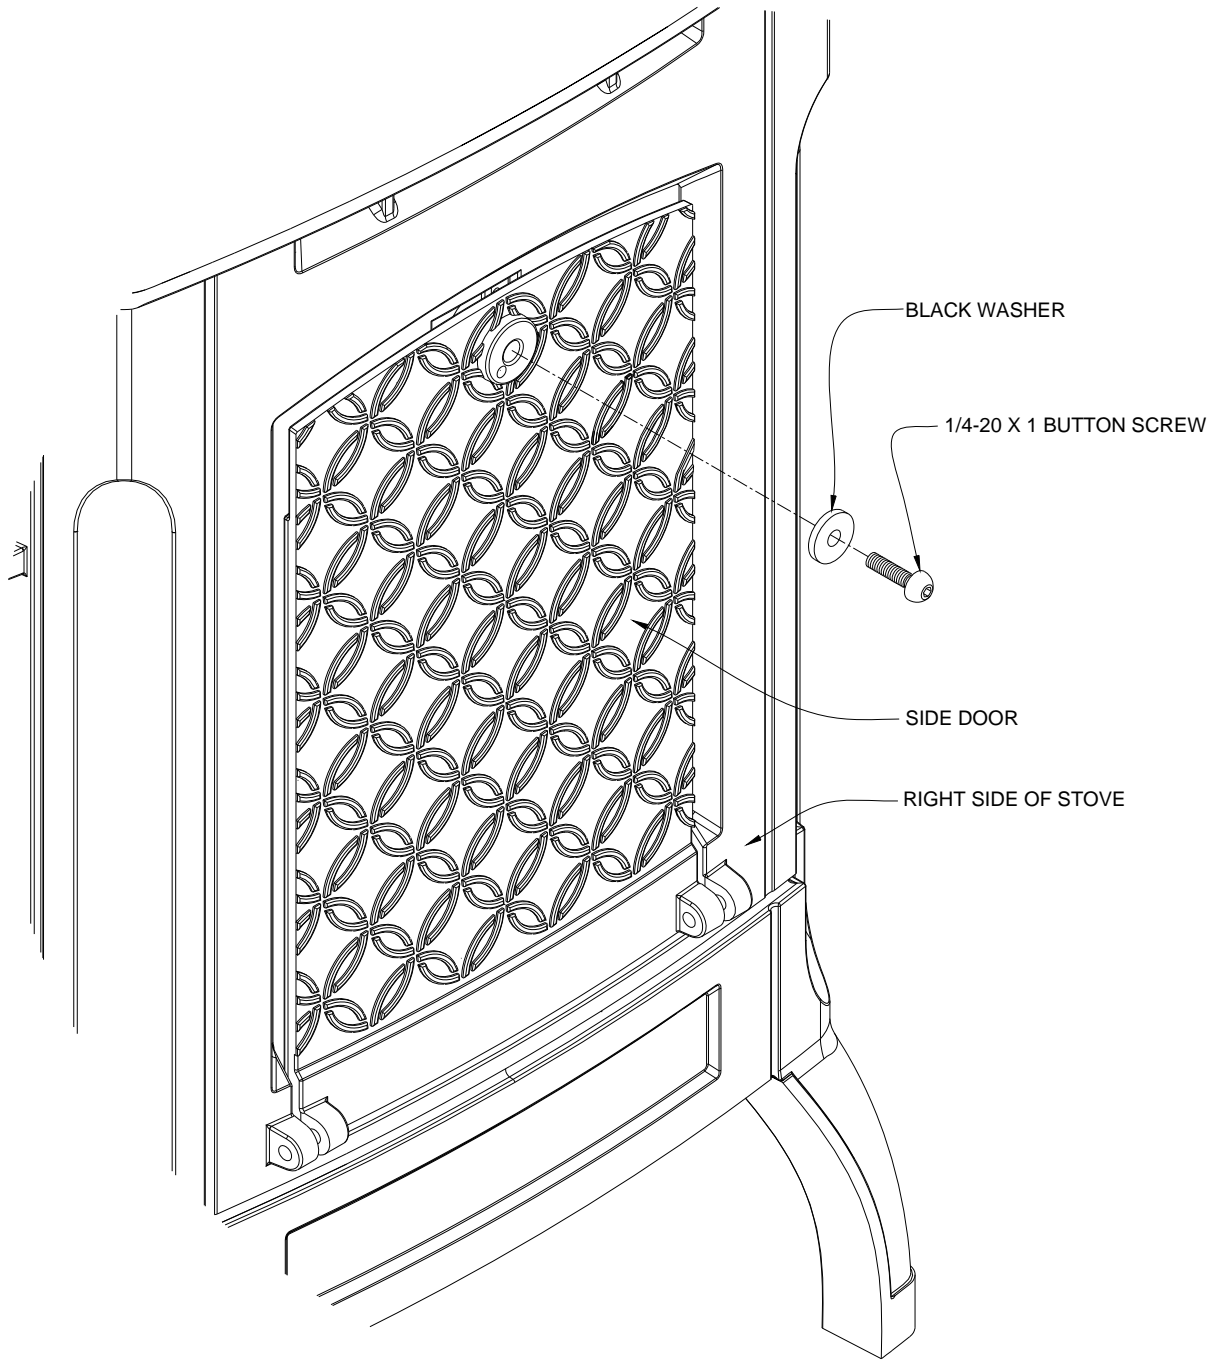

Figure 3: Button Head Screw & Washer Detail
- 4) Insert the 1/4-20 x 1 button head screw through the washer, side door and thread into the hole in the locking plate. Using a 5/32 Hex Wrench, tighten the screw until the side door is secure (Refer to figure 3).